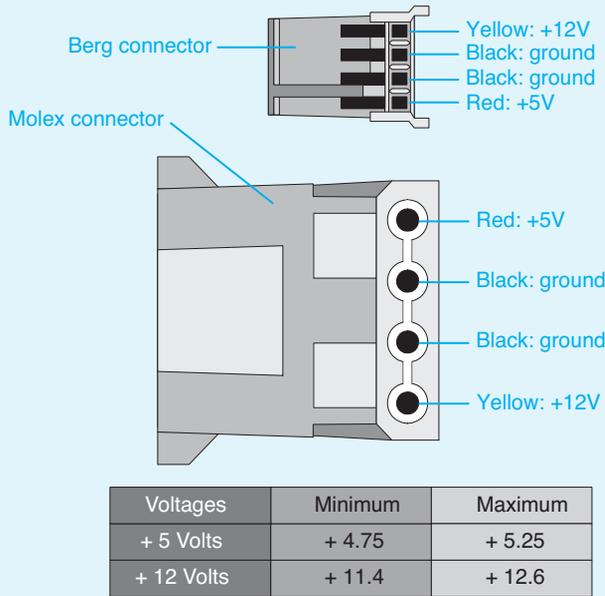

Figure 4.39 Molex and Berg power connectors
7. Check the +5 volt DC output from the power supply by placing the meter's *black* lead in (if the connector is a Molex) or on (if the connector is a Berg) one of the grounds* (a black wire). Place the meter's *red* lead on the +5 volt wire (normally a red wire) in or on the connector. Consult Figure 4.39 for the layout of the Molex and Berg power supply connections. Figure 4.39 also contains a table with the acceptable voltage levels.
- Check the +12 volt DC output by placing the meter's *black* lead in (if the connector is a Molex) or on (if the connector is a Berg) one of the grounds. Place the meter's *red* lead on the +12 volt wire in or on the connector. See Figure 4.39 for the layout of the Molex and Berg power supply connections. The figure also contains a table with acceptable voltage levels. Write the voltage level found for the +12 volt wire in Table 4.12.